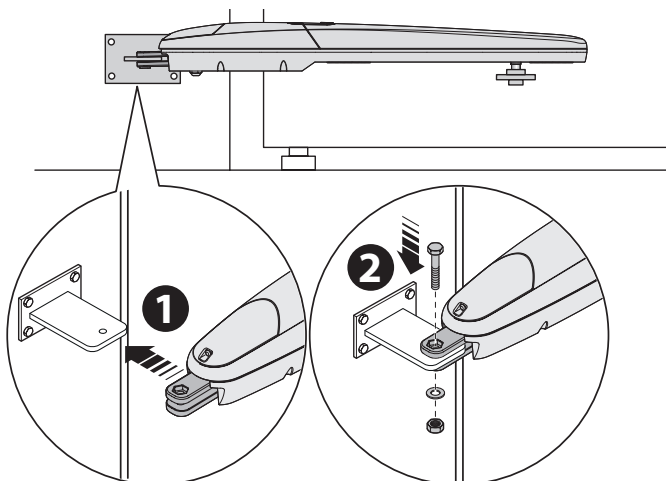

Fig. 6
01. Secure the gearmotor to the bracket as shown in fig. 6, using the screw, washer and nut supplied;